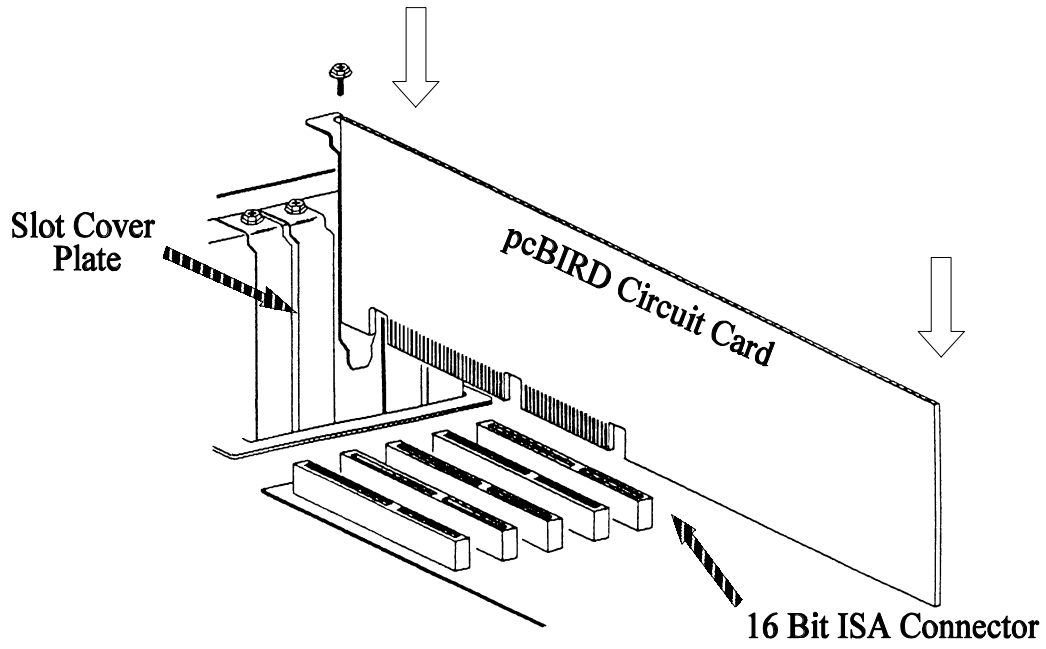

Figure 4. Installation In ISA Slot
**2.2.2 INSTALLING THE CARD.** Once the switches and jumpers are set, the card is installed into a 16 bit ISA slot connector in your computer (Figure 4) by doing the following: